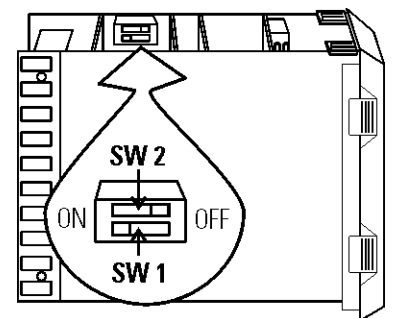

Figure 4-9. Red DIP Switches
6. Looking at the top and right side of the controller module, locate the red DIP switches indicated (Figure 4-9). Use your fingernail, or a small screwdriver, to turn Off SW2 by moving the white toggle towards the front of the module as in the illustration.